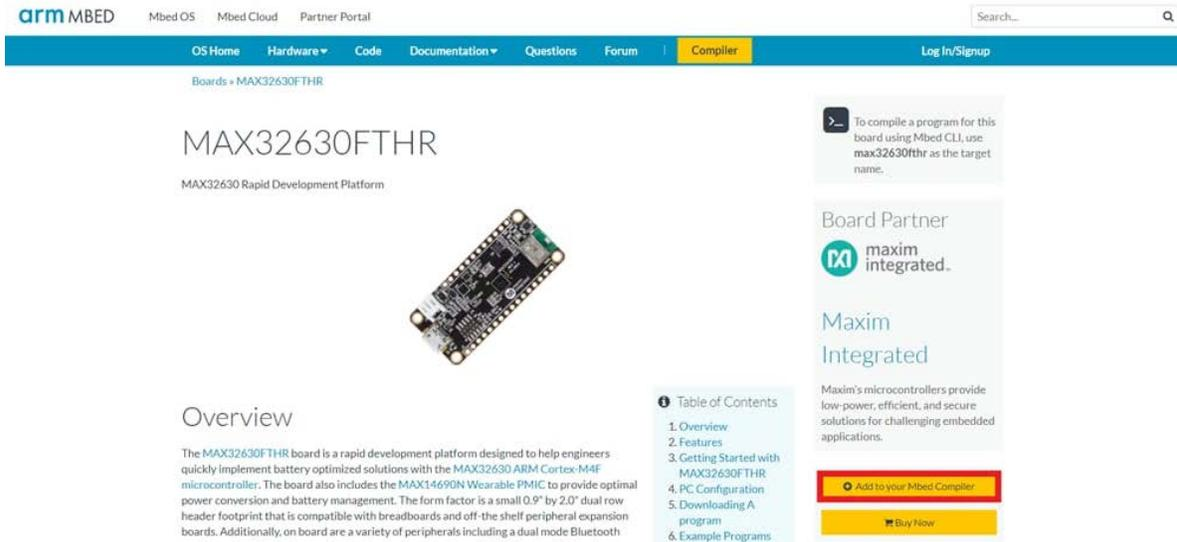

Figure 2. Highlights the Add to your Mbed Compiler button in a red box on the MAX32630FTHR Mbed landing page.
2. After signing in, navigate to the MAX32630FTHR Mbed landing page by clicking the following link, [os.mbed.com/platforms/MAX32630FTHR](https://os.mbed.com/platforms/MAX32630FTHR). On the right-hand side, click the **Add to your Mbed compiler** button to add the MAX32630FTHR as a target microcontroller board to your compiler. **Figure 2** highlights the **Add to your Mbed compiler** button with a red box on the MAX32630FTHR landing page.